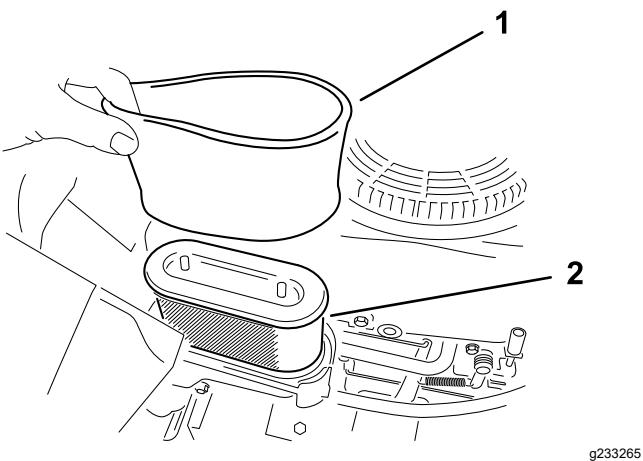

Figure 30
5. Carefully remove the foam and paper filter elements from the air-cleaner housing (Figure 30).
Note: If it is very dirty, replace the paper element (Figure 30).
1. Install the foam filter onto the paper filter (Figure 30).